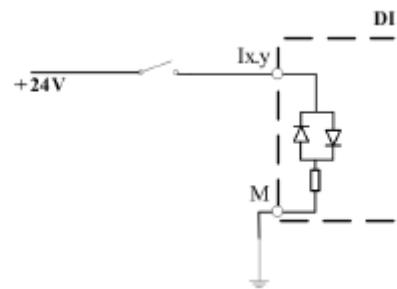

Figure 4-3-11 Sinking type DI
**Sinking type DI:** one end of many switches are short connected to the positive end of sensor power, current flows from switch to ground through photoelectric coupler (as shown in Figure 4-3-11), it absorbs current from contacts for photoelectric coupler of DI, so it is also named Sinking type DI .